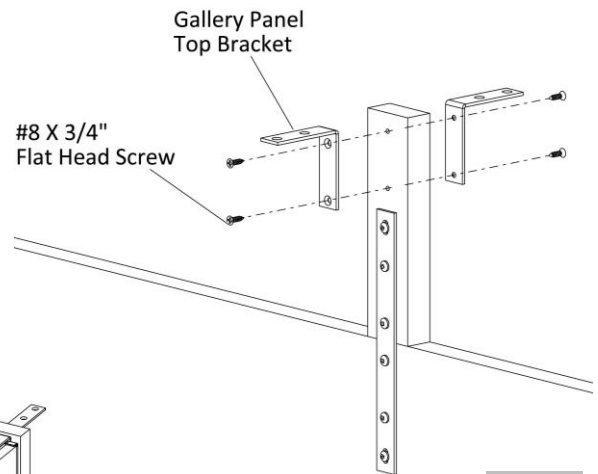

Figure 2
4. Securely fasten the gallery panel top brackets into the pre-drilled holes of gallery panel filler using #8 X 3/4" Flat Head Screws, (Figure 2).